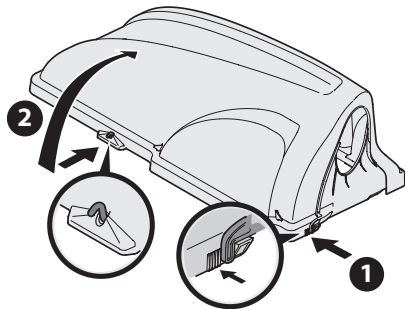

Figure 14
- Open cover by pushing in on the rear, right-side tab with your right hand (1), as seen in Figure 14, and lifting the cover with your left hand in the center rear of the bagger cover (2).